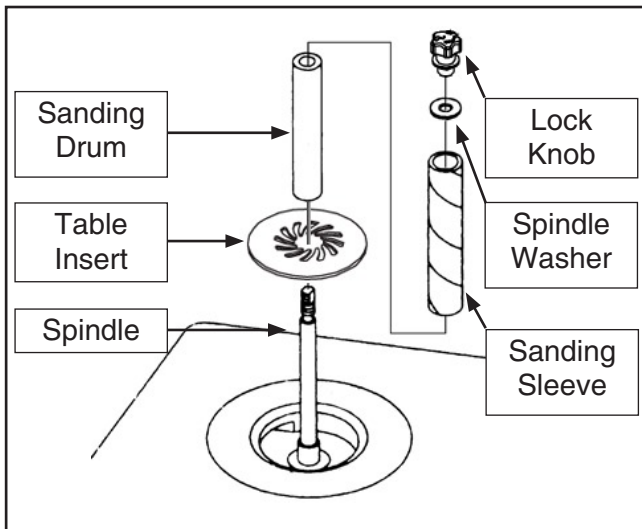

Figure 11. Sleeve installation order.
5. Install the desired sanding drum on the spindle shaft, then install the corresponding sanding sleeve on the drum, referencing **Page 18**, as is shown in **Figure 11**.